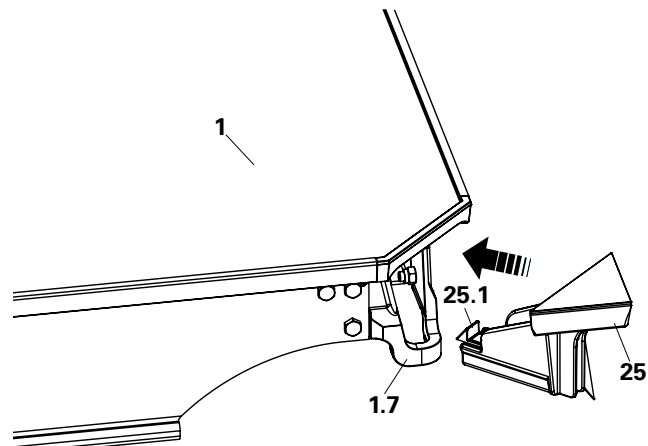

Fig. A2.18
1. Install the corner insert AD (**25**) through the corner element (**1.7**) of the panel (**1**). (Fig. A2.18)